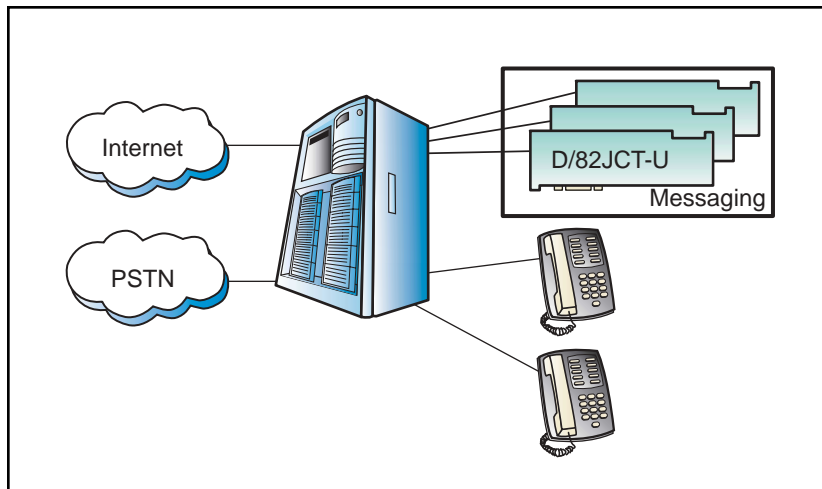

Figure 1. Intel Dialogic D/82JCT-U Configuration Diagram
The Intel Dialogic D/82JCT-U PBX integration board provides PBX integration with an industry-standard CT Bus interface enabling access to CT Bus supported complementary technologies (see Figure 1). A dual-processor architecture consisting of a digital signal processor (DSP) and a general-purpose microprocessor handles all telephony signaling and performs dual-tone multifunction (DTMF; touch-tone) and audio/voice signal processing tasks. When used with supported PBXs, the D/82JCT-U board provides a flexible platform for developing integrated computer telephony (CT) applications. Developers can port current applications from D/42xx PBX integration boards to D/82JCT-U boards with minimal software modifications, and create more efficient applications that are portable for use with multiple PBXs.